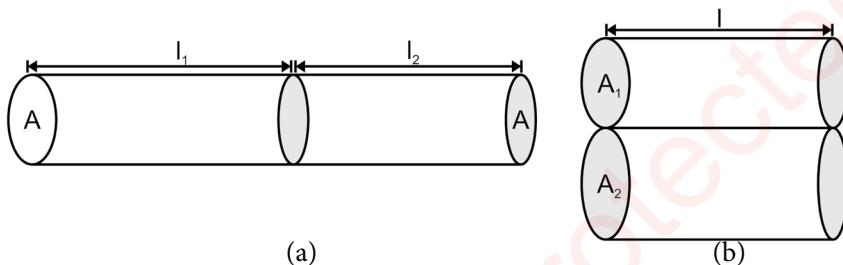

Fig. 4.7 Series and parallel combinations of resistances
If we connect the two wires in series that is, through same area of cross section, than total resistance (R) of combined wires will be (Fig. 4.7 a)
If we connect the two wires in parallel that is, along the length, than total resistance (R) of combined wires will be (Fig. 4.7 b)